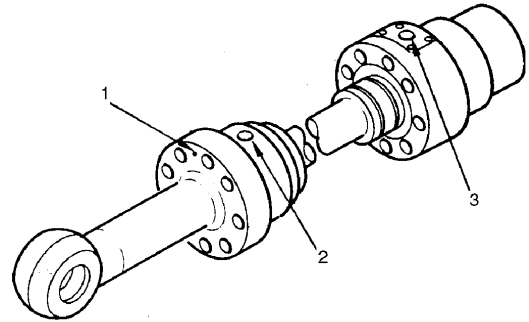

Figure 36
21. Slide rod assembly into cylinder tube. Align punch mark (1, Figure 36) with port (2) in cylinder tube. This will align hole (3) in cylinder head with port (2).